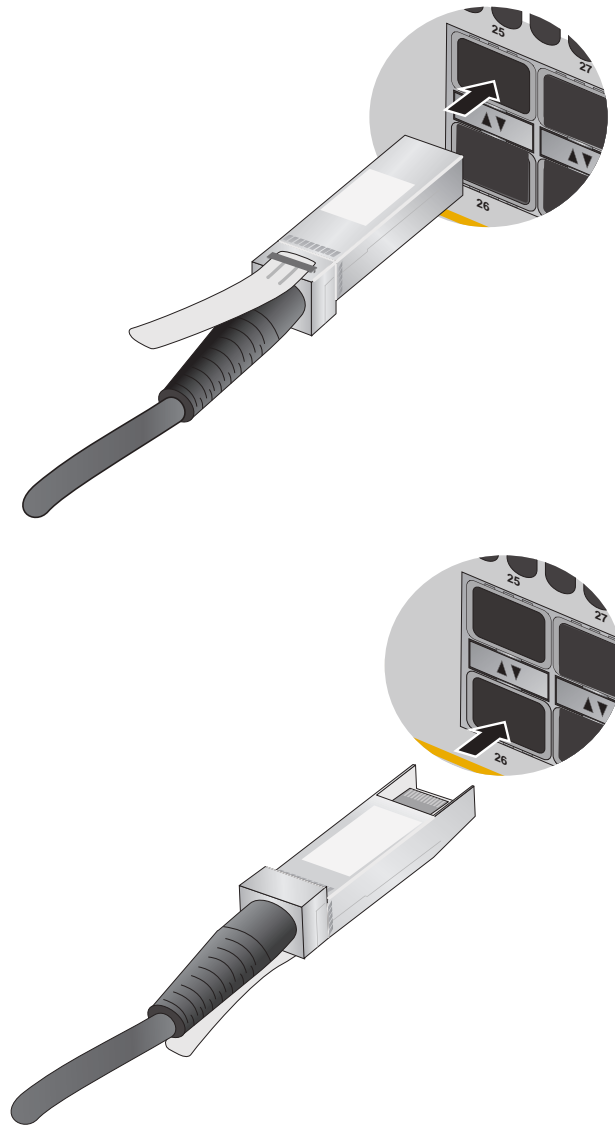

Figure 54. Installing AT-SP10TW Cables
3. To install the transceiver in a port in the top row, position the transceiver with the Allied Telesis label facing up. To install the transceiver in a port in the bottom row, position the transceiver with the label facing down. Refer to Figure 54.